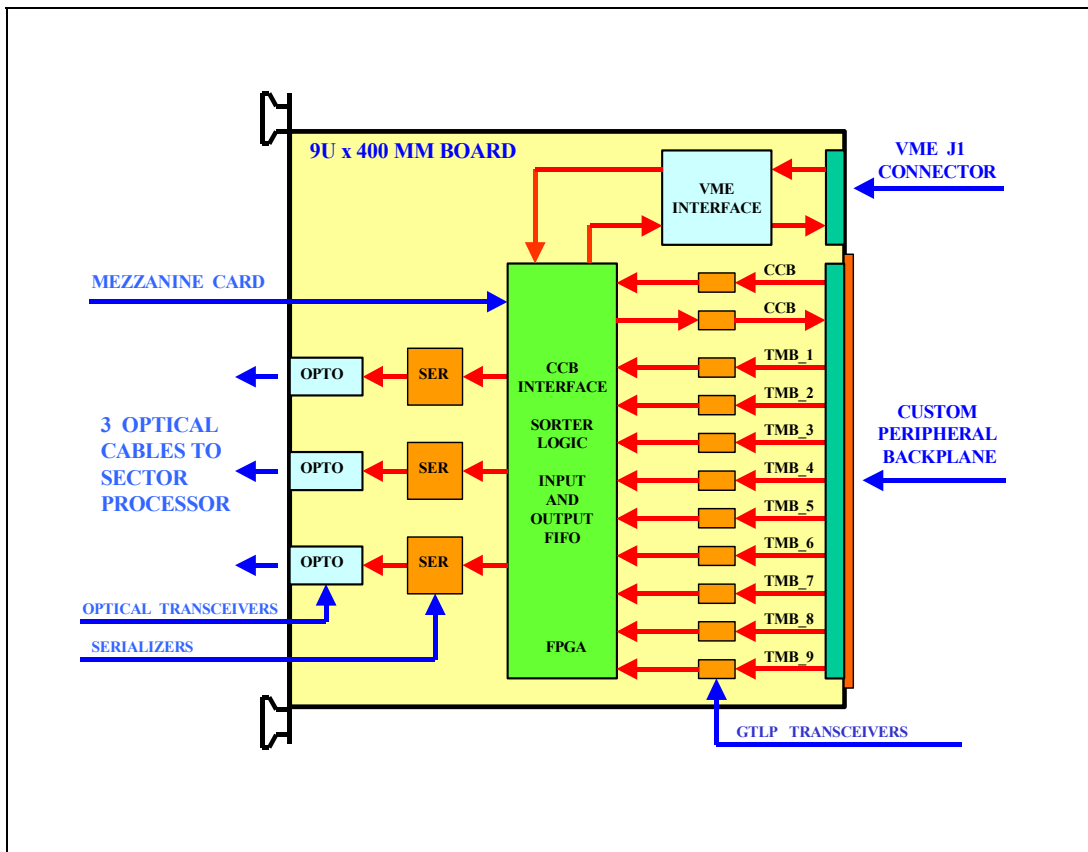

Figure 1: Block Diagram of the Muon Port Card
In each of stations 2-4 of the Cathode Strip Chambers (CSC) at the CMS Experiment, the Muon Port Card (MPC2004) receives up to two trigger primitives (called Local Charged Tracks, or LCT) from nine chambers corresponding to 60 degree sectors, or 18 in total. The MPC2004 reduces the number of LCTs to three and sends them via optical links to the Sector Processors (SP) [1] residing in the Track Finder (TF) crate. In station 1, it receives LCT's from eight chambers corresponding to 20 degree sectors. The MPC2004 resides in the middle of the 21-slot 9U crate that is located on the periphery of the return yoke of the CMS detector. Other slots in a crate are occupied with the Trigger Motherboards (TMB) [2], DAQ Motherboards [3], Clock and Control Board (CCB) [4] and the VME controller. A block diagram of the MPC2004 board is shown on Figure 1.